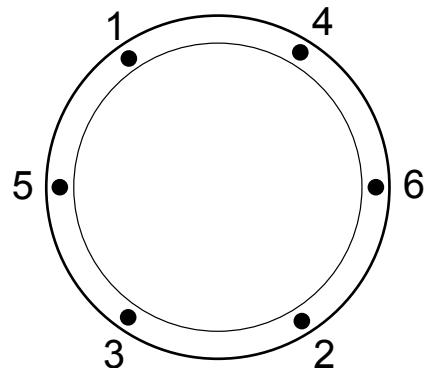

Fig. C5-16 - Tightening sequence for nuts on front cover
- When attaching the front cover of the heat exchanger, tighten the nuts in a cross-pattern. See Fig. C5-16. (If you tighten all of the nuts on one side first, this might bend or distort the cover.)